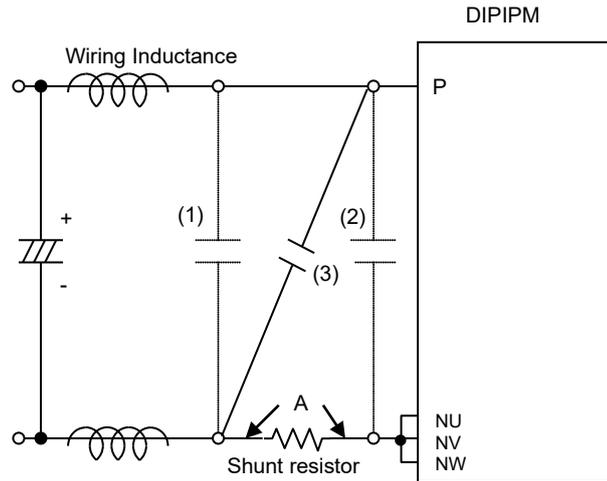

Fig.3-1-8 Recommended snubber circuit location
Normally there are two positions ((1) or (2)) to mount a snubber capacitor as shown in Fig.3-1-8. Snubber capacitor should be installed in the position (2) to suppress surge voltage effectively. However, the charging and discharging currents generated by the wiring inductance and the snubber capacitor will flow through the shunt resistor, which might cause erroneous protection if this current is large enough.